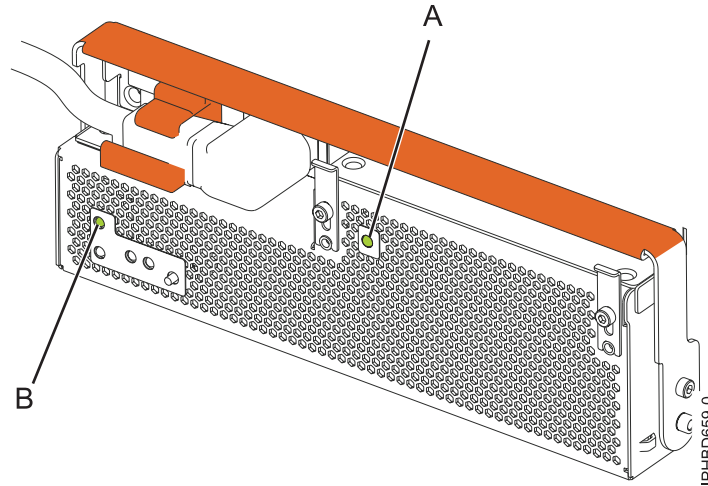

Figure 23. Expansion unit ac power and OCA power LEDs
9. Note the state of the green ac power in **(A)** and Offline Converter Assembly (OCA) power **(B)** light-emitting diodes (LEDs) shown in Figure 23 on page 24, and do one of the following actions, as applicable: